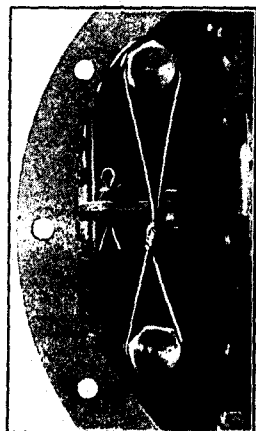

Fig. 47—Correct Method of Wiring Ring Gear Bearing Cap Screws
27. When the adjustment has been completed, tighten the screws in the ring gear bearing caps and lock them with No. 14 soft annealed iron wire. Make sure that the wire is threaded through the screw heads in the proper direction. Fig. 47 shows the proper manner for wiring the screw heads.